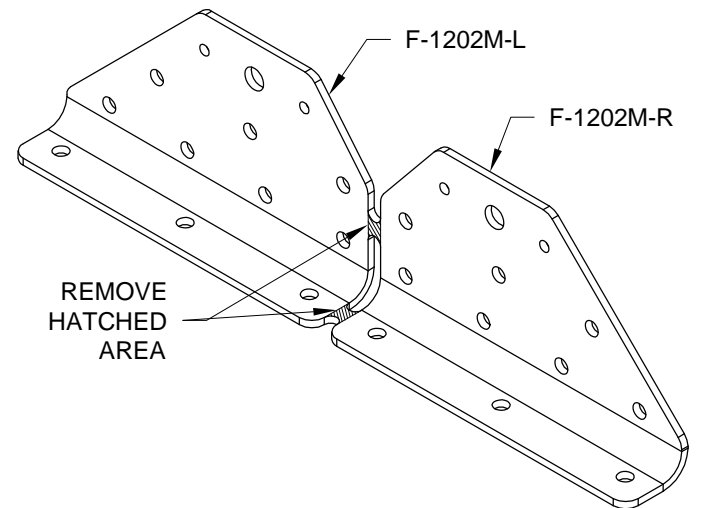

FIGURE 5: SEPARATING THE CANOPY ATTACH DOUBLER
Step 9: Separate the F-1202M Canopy Attach Doubler into left and right parts as shown in Figure 5.